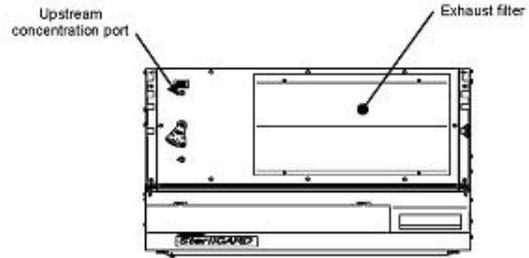

Figure 2: Top view of cabinet
Decontaminate the cabinet before removing the port plug in Figure 2.
2. Measure the filters upstream challenge concentration of aerosol through the port shown in Figure 2. (Note: NSF/ANSI Standard 49 requires a minimum upstream concentration of 10 micro grams per liter.) Set upstream challenge value on photometer per manufacturer's instructions.